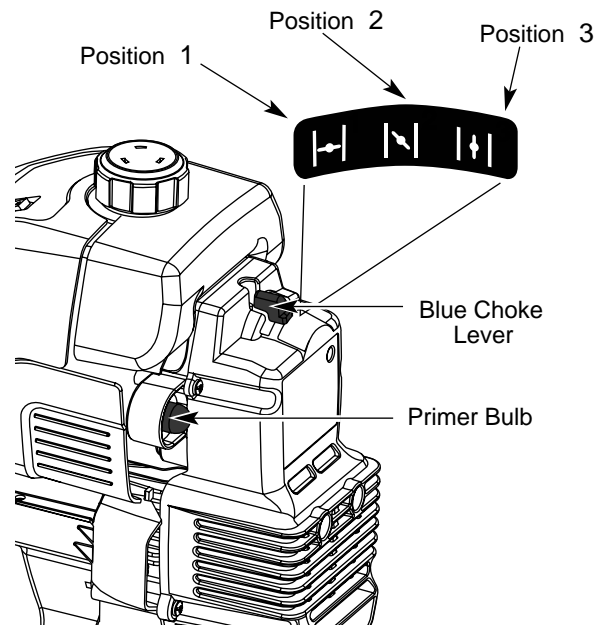

Fig. 7
3. Fully press and release the primer bulb 10 times, slowly. Some amount of fuel should be visible in the primer bulb and fuel lines (Fig. 7). If you can't see fuel in the bulb, press and release the bulb as many times as it takes before you can see fuel in it.
4. Place the blue choke lever in Position 1 (Fig. 7).
9. Once the engine is warmed up, place the blue choke lever in Position 3 (Fig. 7). The unit is ready for use.
IF... The engine hesitates, return choke lever to Position 2 (Fig. 7) and continue warm up.